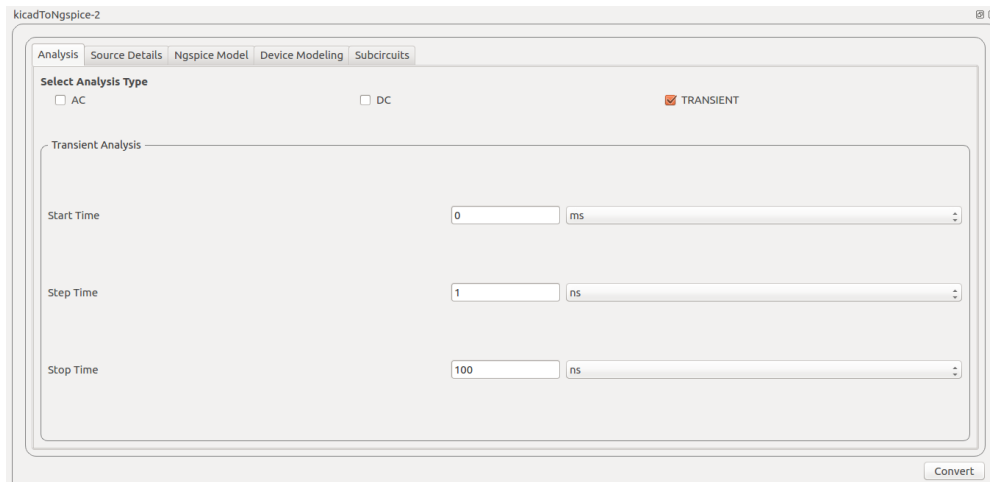
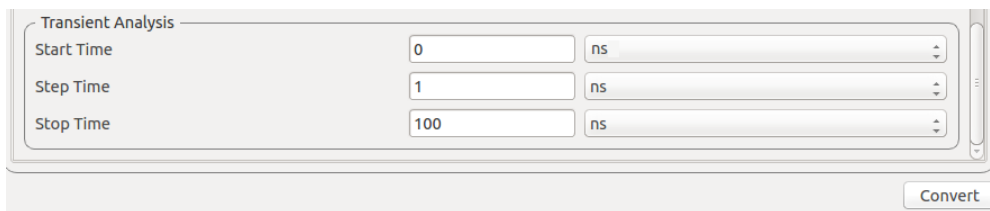

Figure 10.11: Analysis Part I
Figure 10.12: Analysis Part II
5. After creating the schematic, click on **KiCad-to-Ngspice converter** and select the type of analysis as transient as shown in Fig. 10.11 and set the start, step and stop time as shown in Fig. 10.12